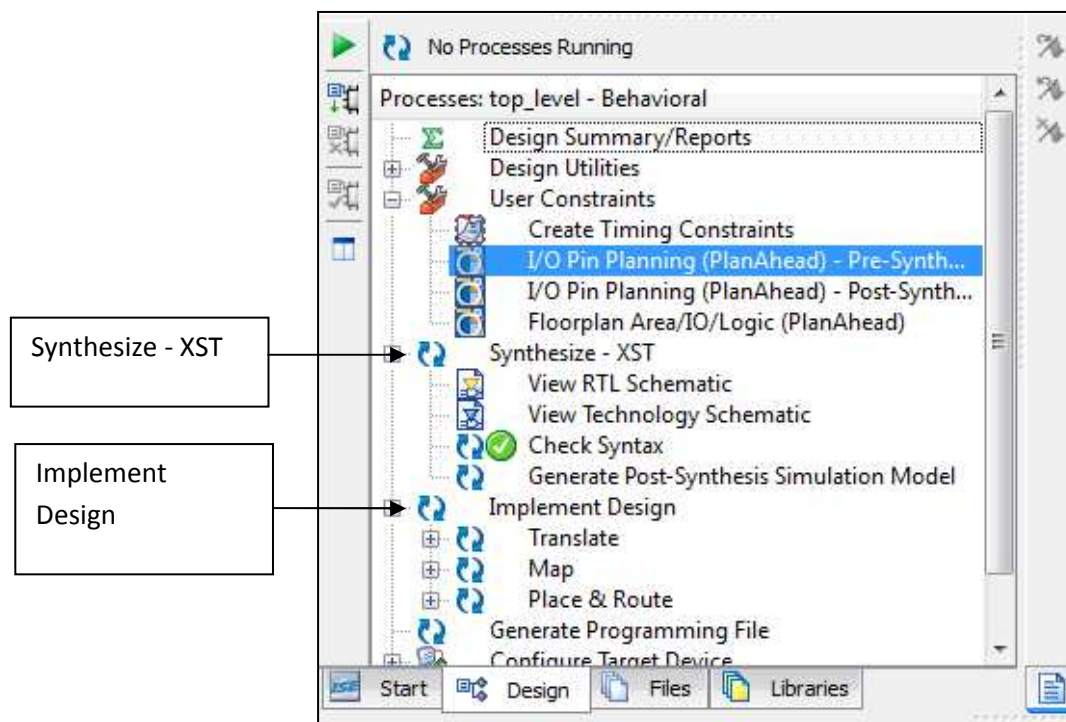

Figure 6.45: Portion of Project Navigator screen, with Implement Design expanded.
1. As shown in Figure 6.45, click on the '+' next to **Implement Design**. This will expand out to show the **Translate**, **Map** and **Place & Route** stages.